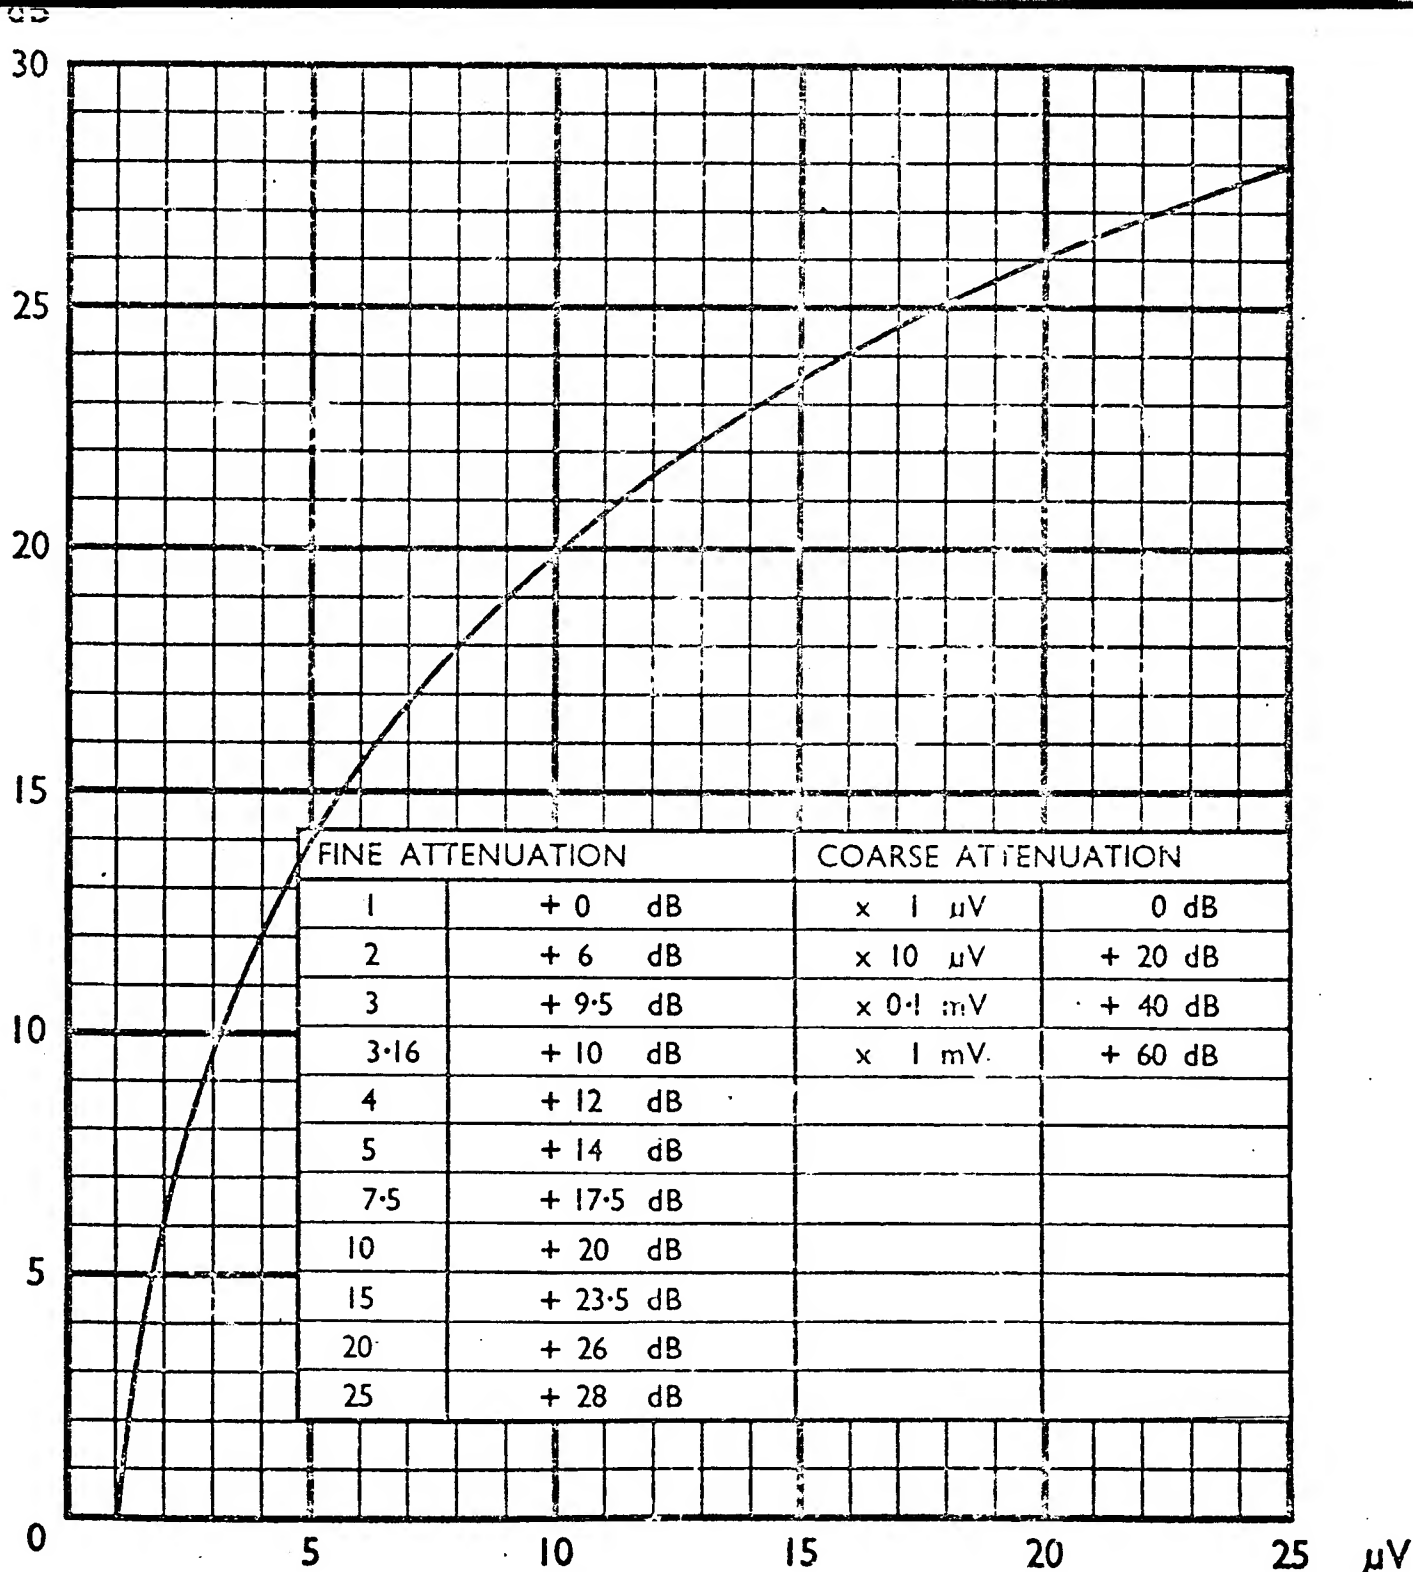

Fig. 2.1.1. ATTENUATOR CONVERSION CHARTS
12. If it is desired to set up or read off a signal in decibels with a reference level of one microvolt across 75 ohms (-or 50 ohms see below), either set up or read off the ATTENUATOR FINE and COARSE dials as in Fig. 2.1.1. which gives a graphical conversion for the 1-25 scale of the FINE control and a tabulated scale for the COARSE, together with notes on the loss of various ATTENUATORS, FIXED, etc. It must be noted that when using a 75 ohm system the decibel reference point:- $0 \text{ dB} \equiv 1 \mu\text{V}$ across 75 ohms is applicable but when 5905-99-972-6357 ATTENUATOR, FIXED is in circuit the reference level must be changed to $0 \text{ dB} \equiv 1 \mu\text{V}$ across 50 ohms. To allow for the loss that 5905-99-972-6357 ATTENUATOR, FIXED produces calculate the dB level from the settings of the FINE and COARSE dials and subtract 6 dB.